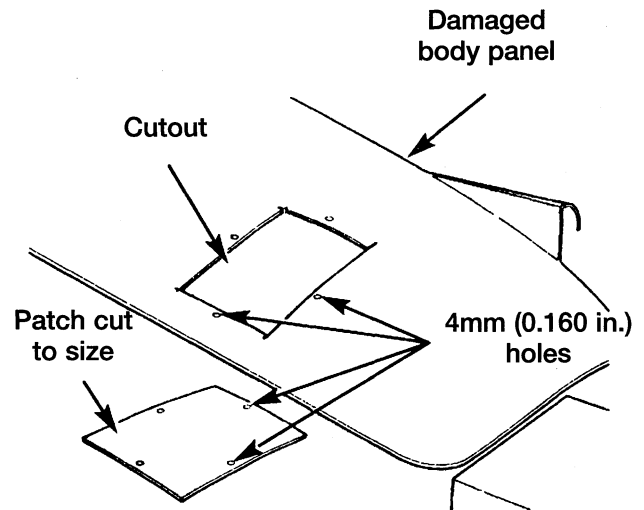

Fig. 1 Damaged Panel Cutout and Patch
An SMC panel that has extensive puncture type damage can be repaired by cutting out the damaged material (Fig. 1). Use a suitable reciprocating saw or cut-off wheel to remove the section of the SMC panel that is damaged. The piece cut out can be used as a template to shape the new patch. It is not necessary to have access to the back of the panel to install a patch. Bevel edges of cutout at 20 degrees to expose a larger bonding area on the outer side. This will allow for an increased reinforcement area.
5. Drill 4mm (0.160 in.) holes 13mm (0.5 in.) in from edge of cutout hole (Fig. 1).
6. Drill 4mm (0.160 in.) holes 13mm (0.5 in.) away from edge of patch across from holes drilled around cutout (Fig. 1).